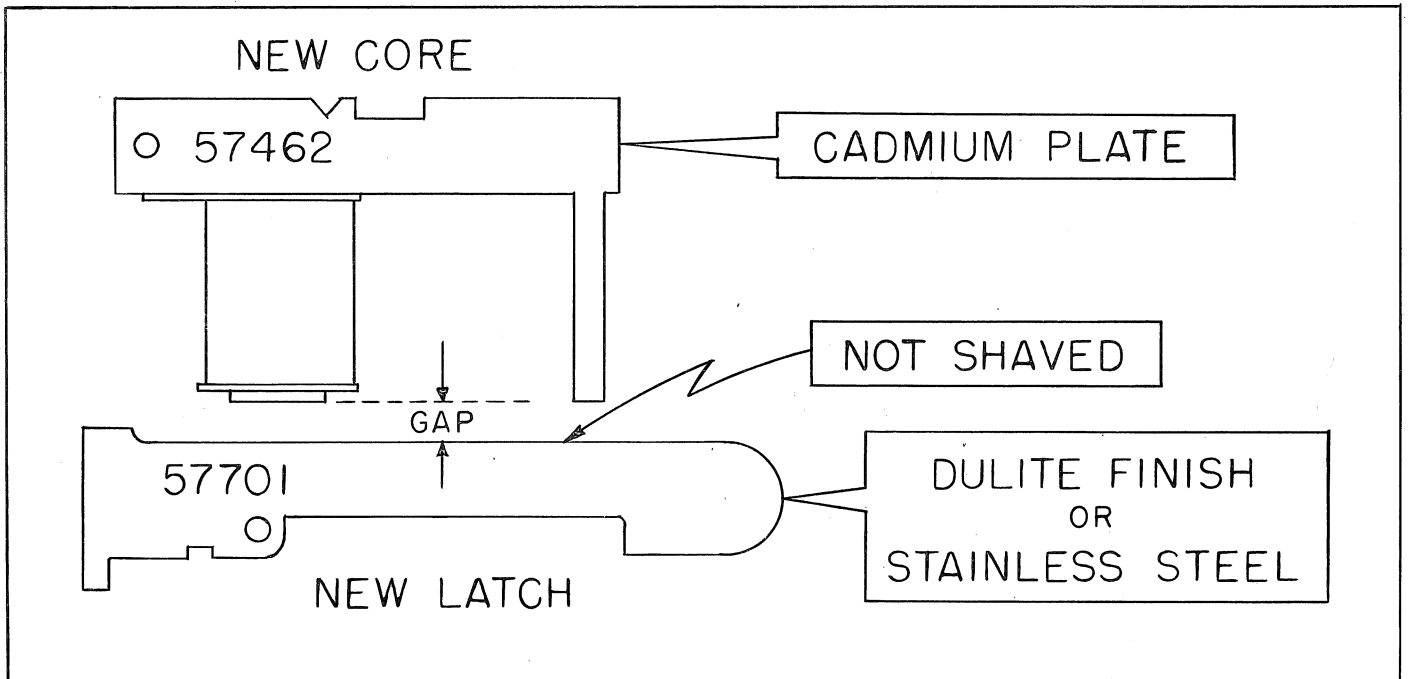

FIG. 2
b. As the air gap has been provided by the shorter core - the latch pin will be straight as indicated in Fig. 2, with no shaved edge. It will be supplied either in dulite finish or stainless steel under part number 57701.